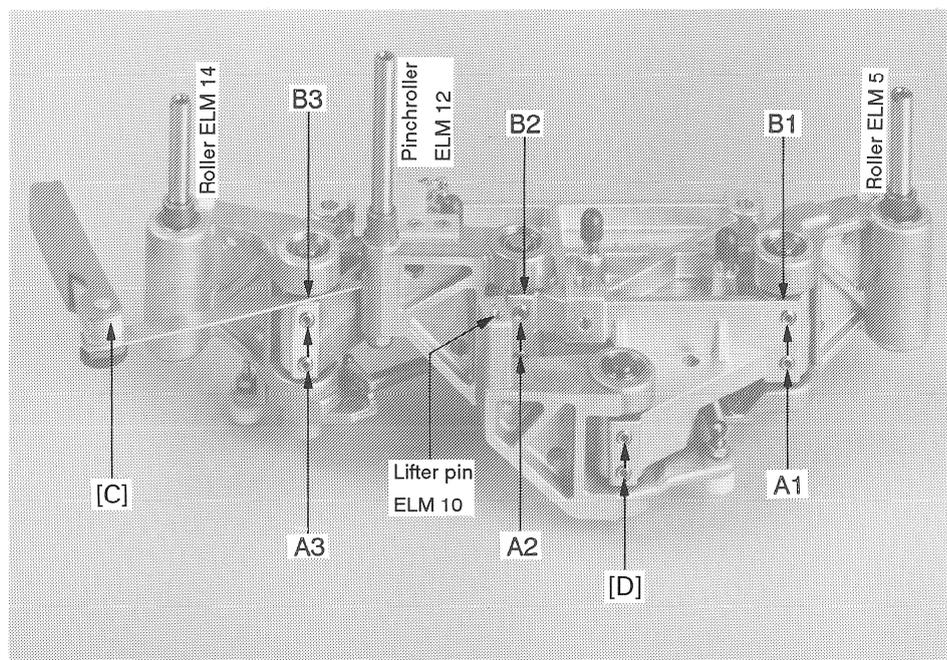

Fig. 47
2. With the aid of the feeler gauge [C] measure the distance [B2] of the two die-cast aluminum parts at ELM12, Fig. 47.